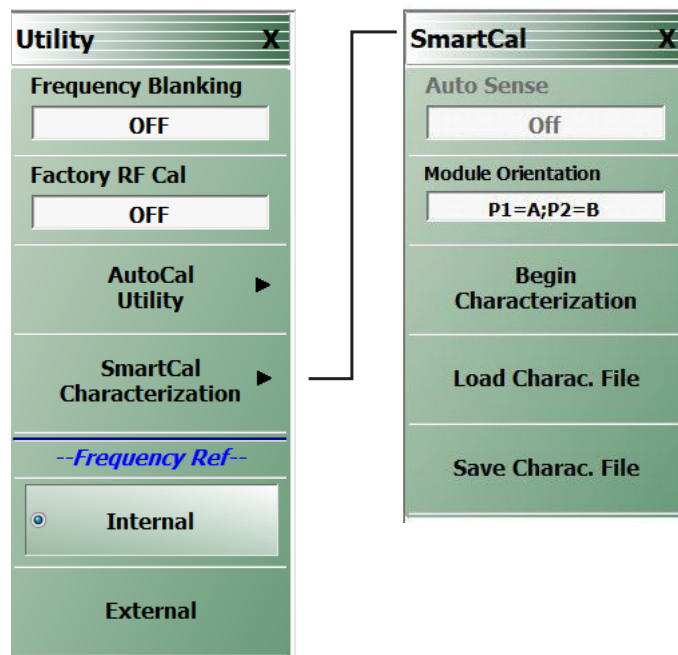
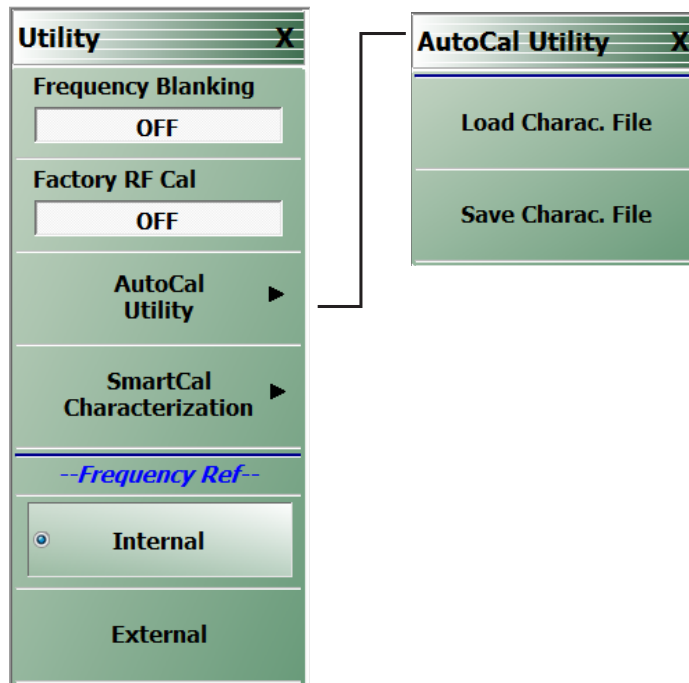

Figure 2-22. SMARTCAL (SMARTCAL CHARACTERIZATION) Menu
Figure 2-23. AUTOCAL UTILITY Menu
4. Select the SmartCal Characterization menu (Figure 2-22) to start the SmartCal characterization. For the AutoCal characterization, the user can choose to load or save the AutoCal characterization file. AutoCal recharacterization is not enabled on ShockLine VNAs (Figure 2-23). The VNA will automatically switch the unit through its various states and characterize them. Alternatively, the connected test port order may be specified and may be necessary if there is substantial loss in the test setup (note that this may indicate an accuracy hazard).